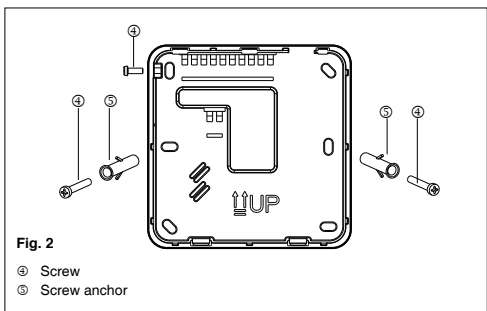

Fig. 2
- Remove the locking screw in the upper left side to separate the unit from the control (Fig. 2). Secure the unit on the wall and mark the drill holes.
- Fix the control to the wall using the corresponding screw anchors ②.
- Put the control cover back to its place by reinstalling the screw previously removed (Fig. 2).